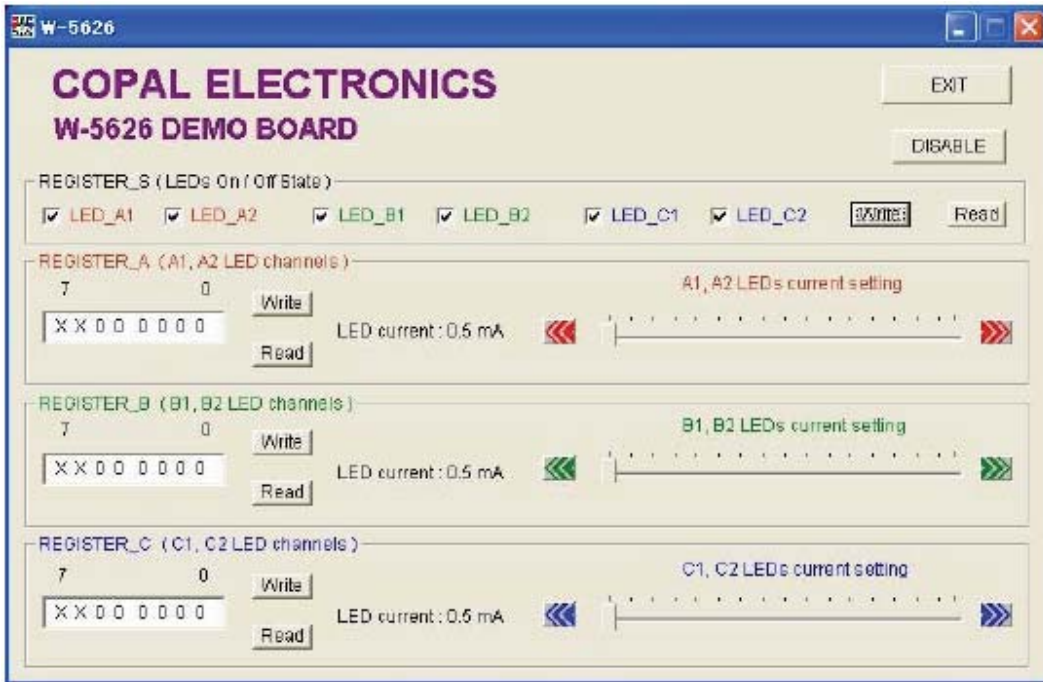

Figure 4. W-5626DB1 with all channels enabled and LED currents set to min value
- f) When the program starts, the board will be in the disabled state. Press the "ENABLE" button and the W-5626 will be enabled. After setting the EN input high, the user can write into the Register_S to activate the corresponding LED output channels. Figure 4 shows all the LED channels active. The current for each channel is set at the minimum value (=0.5mA).